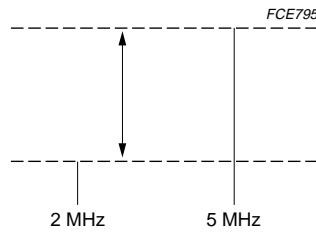

Fig.3 $V_{o(diff)(LOOUT)}$ conditions.
3. $f_{LO} = 1000$ MHz; RF wanted = 1005 MHz; RF unwanted = 2002 MHz (see Fig.3). Done on the demo board OM5732.